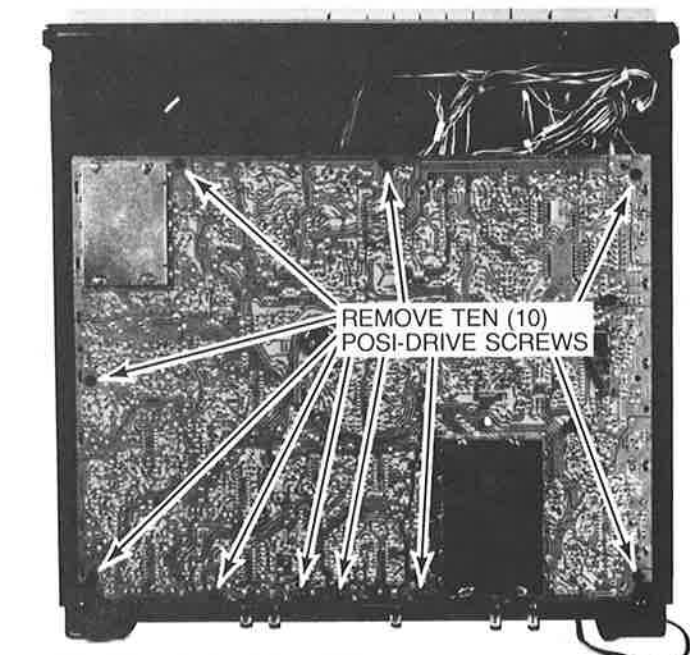

Fig. 11—Master Circuit Board
2. Remove ten (10) posi-drive (+ head) screws Fig. 11.